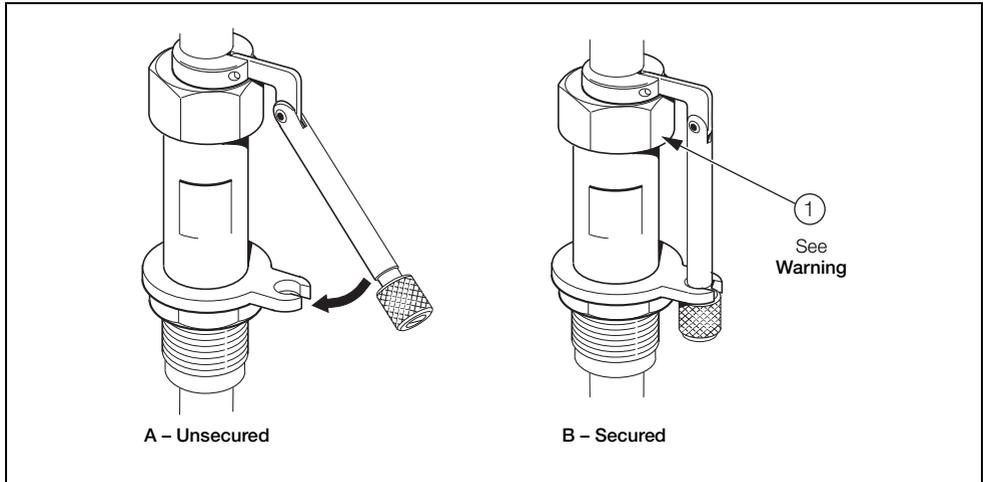

Fig. 3.6 Safety Mechanism
**Warning.** The flow sensor is provided with a safety mechanism (see Fig. 3.6 A) that must be attached to its securing collar as shown in Fig. 3.6 B. This prevents rapid outward movement by the flow sensor if nut ① is released.